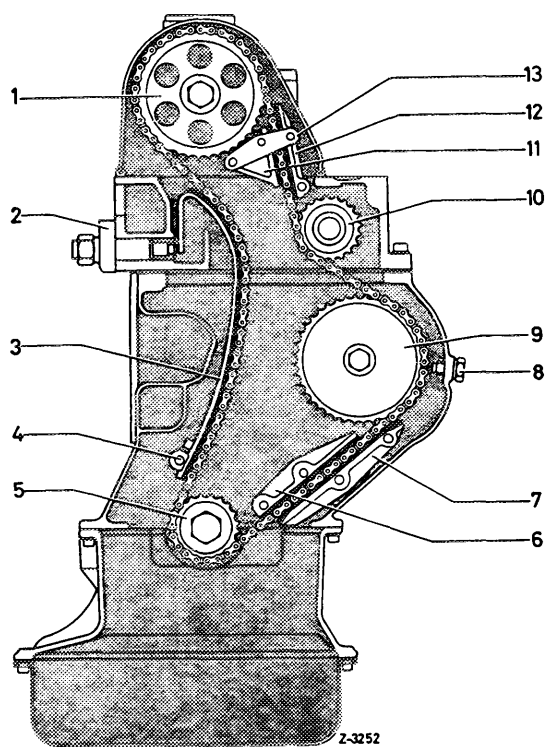

Fig. 05-1/1
Instead of using a tension sprocket, the drive chain of the above engine models is tightened by a tensioning rail (3) which is so arranged that the chain slides over it. Removal and installation of the tensioning rail is effected with cylinder head assembled (Figs. 05-1/1 to 4).